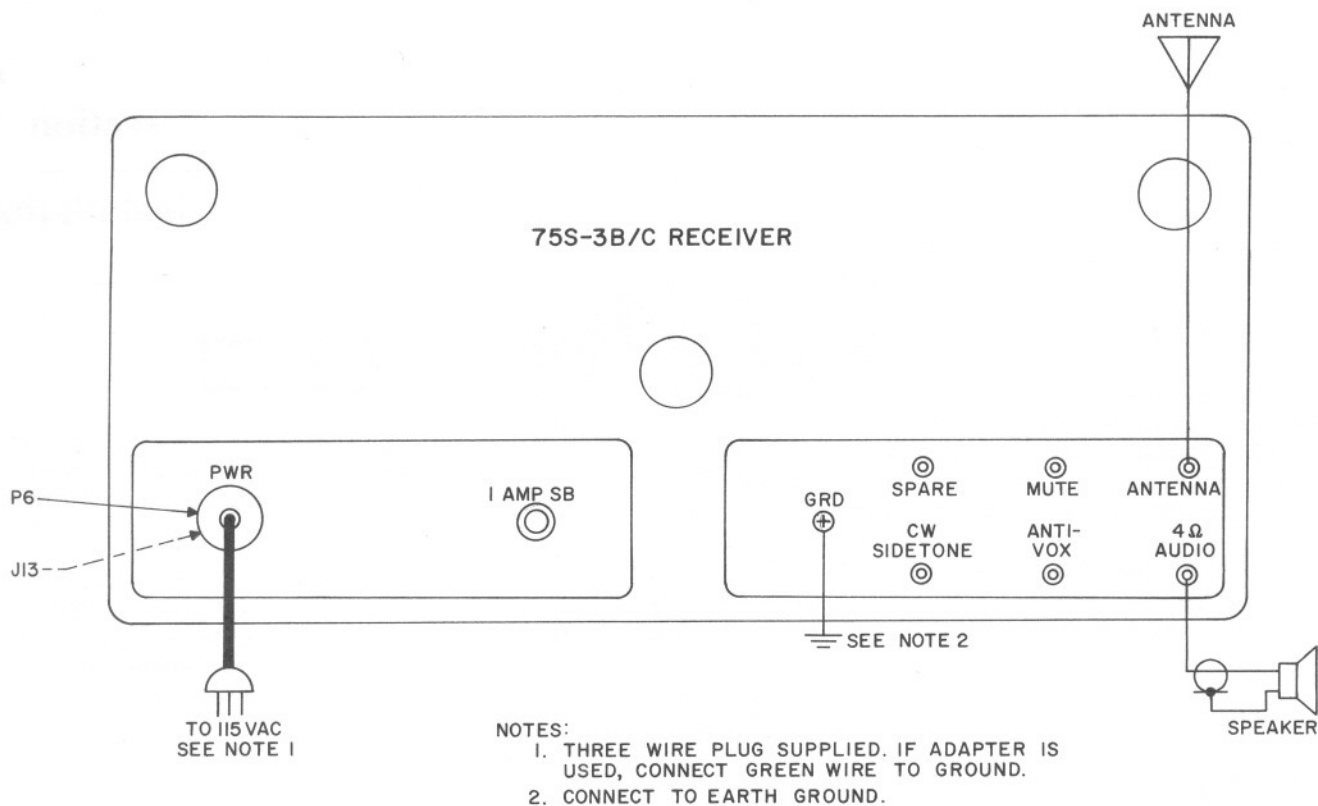

Figure 1-1. External Connections
1.2.1 EXTERNAL CONNECTIONS. Figure 1-1 shows the location of jacks for external connections to the 75S-3B and 75S-3C Receivers. The power cable plugs into socket J13. The ANT jack is a nominal 50-ohm antenna input. The 4 Ω AUDIO jack is for connection of a speaker.